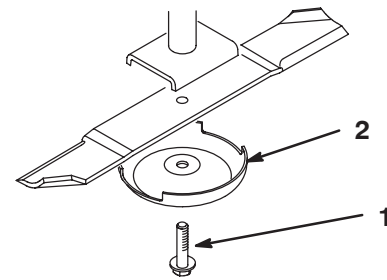

Figure 89
2. Grasp the end of the blade using a rag or thickly padded glove. Remove the blade bolt, anti-scalp cup, and blade from the spindle shaft (Fig. 89).